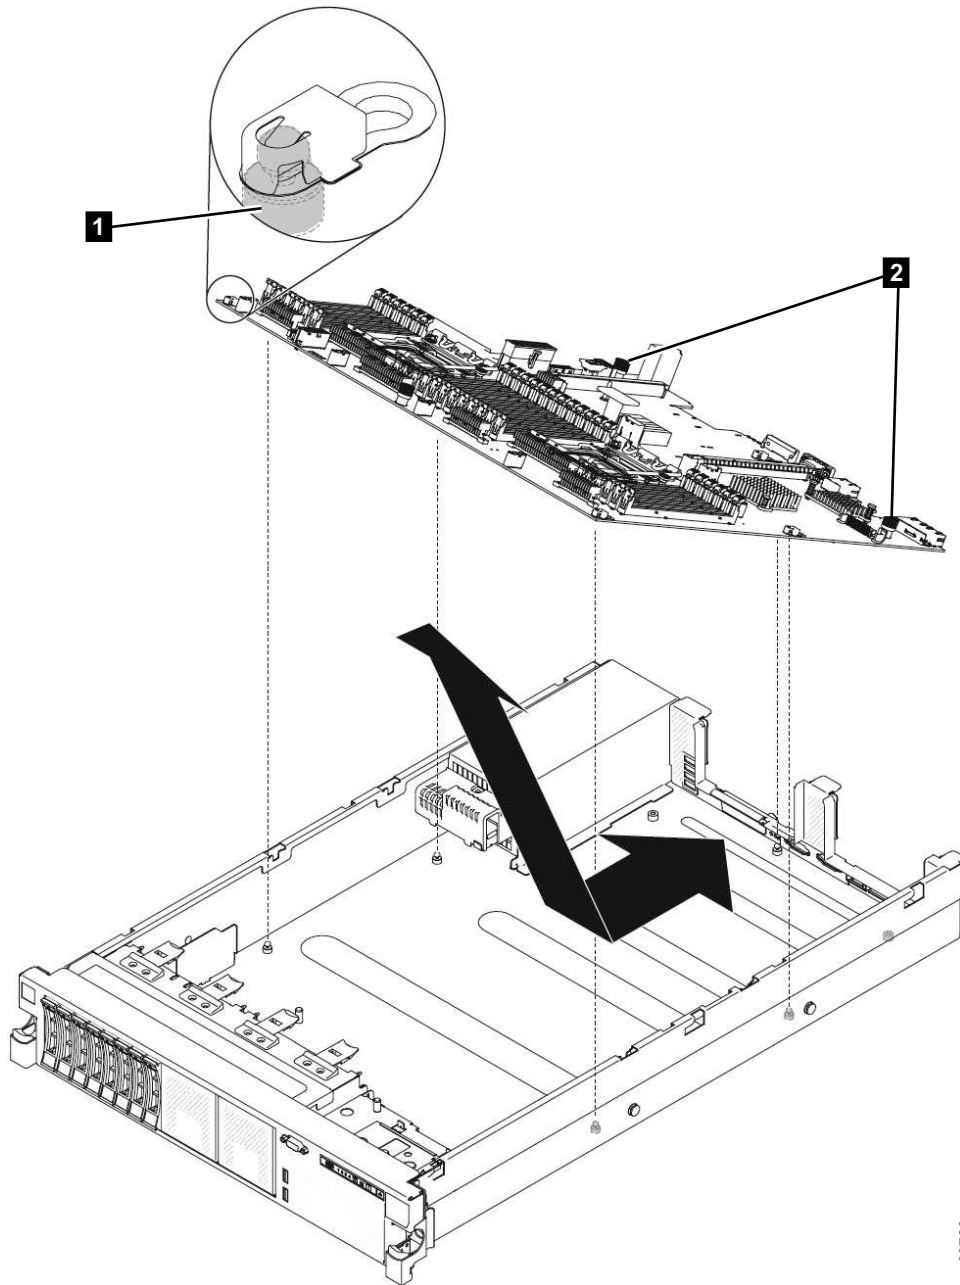

Figure 204. Removing the SAN Volume Controller 2145-DH8 system board
15. Pull out and lift the pin and the thumbscrews on each side of the system board, as shown in Figure 204.